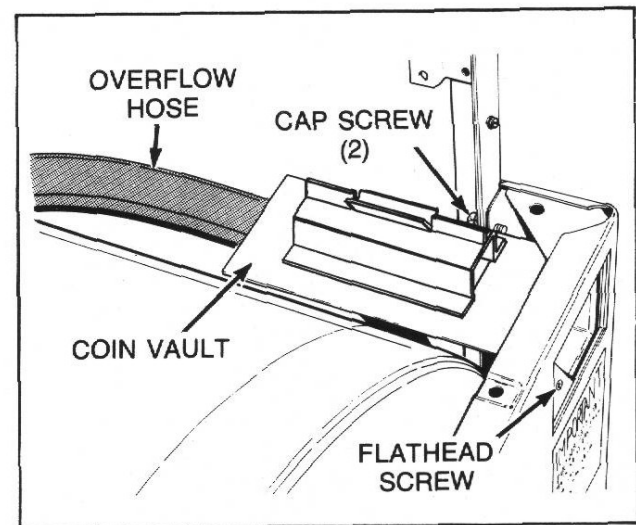

Figure 10
- i. Remove flathead screw and locknut holding coin vault to front panel, *Figure 10*, then remove two cap screws and lockwashers holding coin vault to right leg, *Figure 10*.
- g. Metered Models: Remove flathead screw and locknut holding coin vault to front panel, *Figure 10*, then remove two cap screws and lockwashers holding coin vault to right leg, *Figure 10*.
**NOTE:** Pump Models — Overflow hose, *Figure 10*, may have to be pushed down to gain access to cap screw holding top of front panel assembly to right leg.
- h. Metered Models: Remove flathead screw and locknut holding coin vault to front panel, *Figure 10*.
- i. Metered Models: Remove two cap screws and lockwashers holding coin vault to right leg, *Figure 10*.
- NOTE:** Pump Models — Overflow hose, *Figure 10*, may have to be pushed down to gain access to cap screw holding top of front panel assembly to right leg.
locknut holding coin vault to front panel, *Figure 10*, then remove two cap screws and lockwashers holding coin vault to front panel, *Figure 10*.